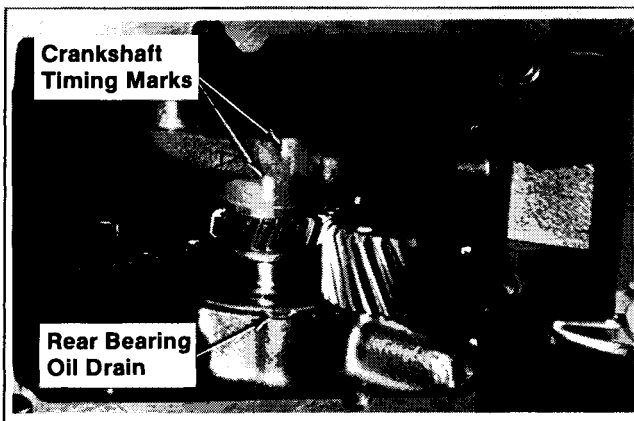

Figure 12-21. Aligning Crankshaft And Rear Bearing Oil Drain
- Lubricate the rear bearing surface of crankshaft. Insert the PTO end of crankshaft through the rear bearing. "Straddle" the primary and secondary timing marks on crankshaft over the rear bearing oil drain. Refer to Figure 12-21.